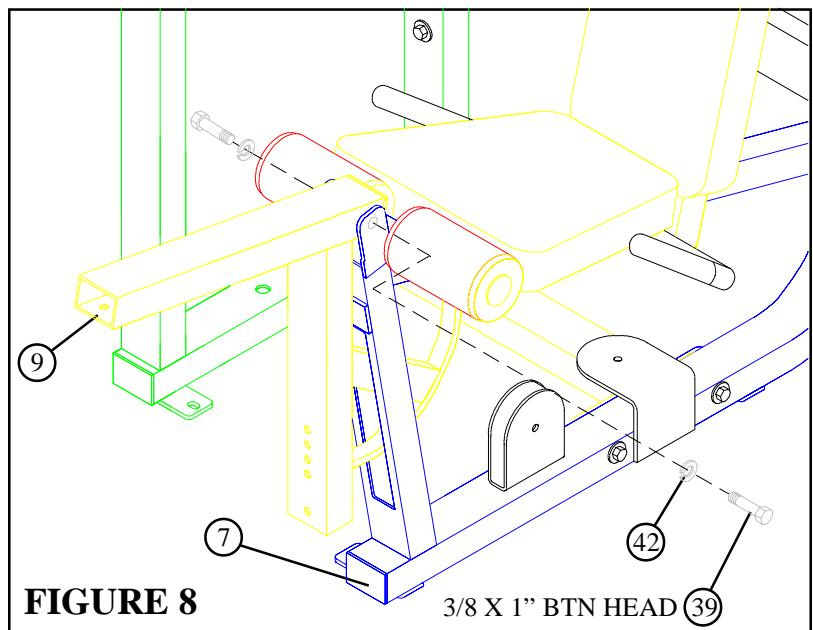

FIGURE 8
- Attach LEG PEDESTAL (9) to the BENCH FRAME (7) using two 3/8 X 1" BUTTON HEAD CAP SCREWS (39) and two 3/8" LOCKWASHERS (42) as shown in FIGURE 8.